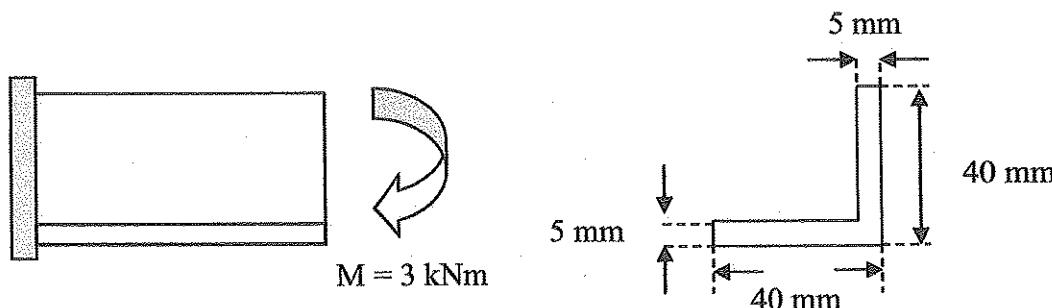

Figure 3(b)/Rajah 3(b)
- (b) A cantilever beam with L cross section is loaded with 3 kNm as moment at the edge as shown Figure 3(b) above. Given E = 165 GN/m
- (c) A simply support beam shown in Figure 3(c) is loaded with Uniformly Distributed Load. Based on the figure, calculate the slope and deflection at position 3 m from point A by using Double Integration Method.